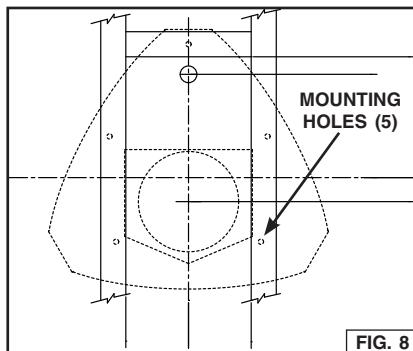

FIG. 8
1. Tape the mounting template in place and drill (5) 1/8" diameter holes at the center locations shown. Fig. 8. When complete remove template from ceiling.